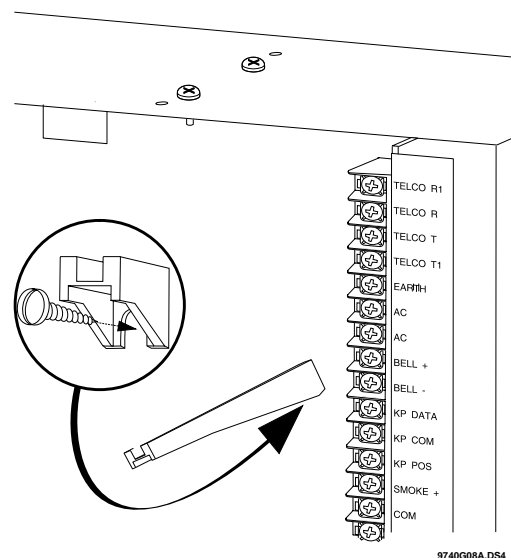

Figure 2. Installing the Circuit Board Edge Guide Standoff
2. Install the circuit board edge guide standoff in the lower mounting hole, in either of the two spaces located just to the left of the motherboard (see Figure 2). Do not tighten the standoff at this time.